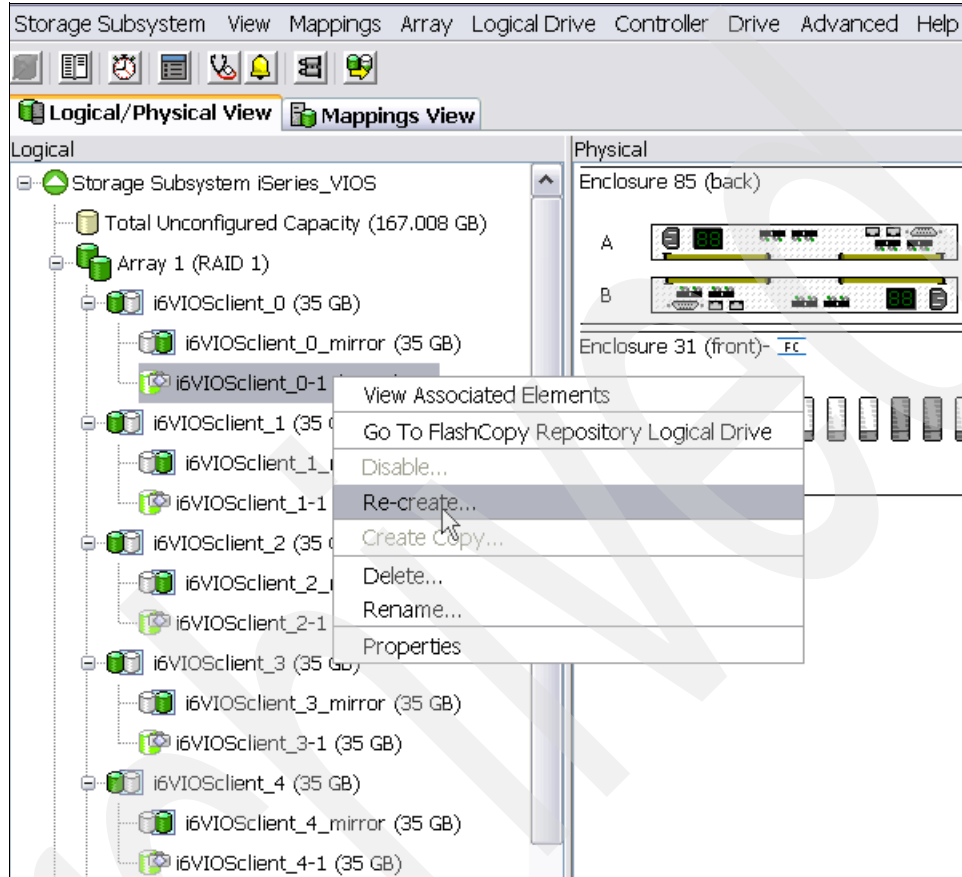

Figure 8-17 Re-create FlashCopy logical drive
4. Use DS Storage Manager and double-click the relevant Storage System to open the Subsystem Management window Logical/Physical view. Right-click each FlashCopy logical drive of the production partition and select **Re-create** from the pull-down, as shown in Figure 8-17. Type Yes in the confirmation window to confirm the re-creation of FlashCopy logical drive.